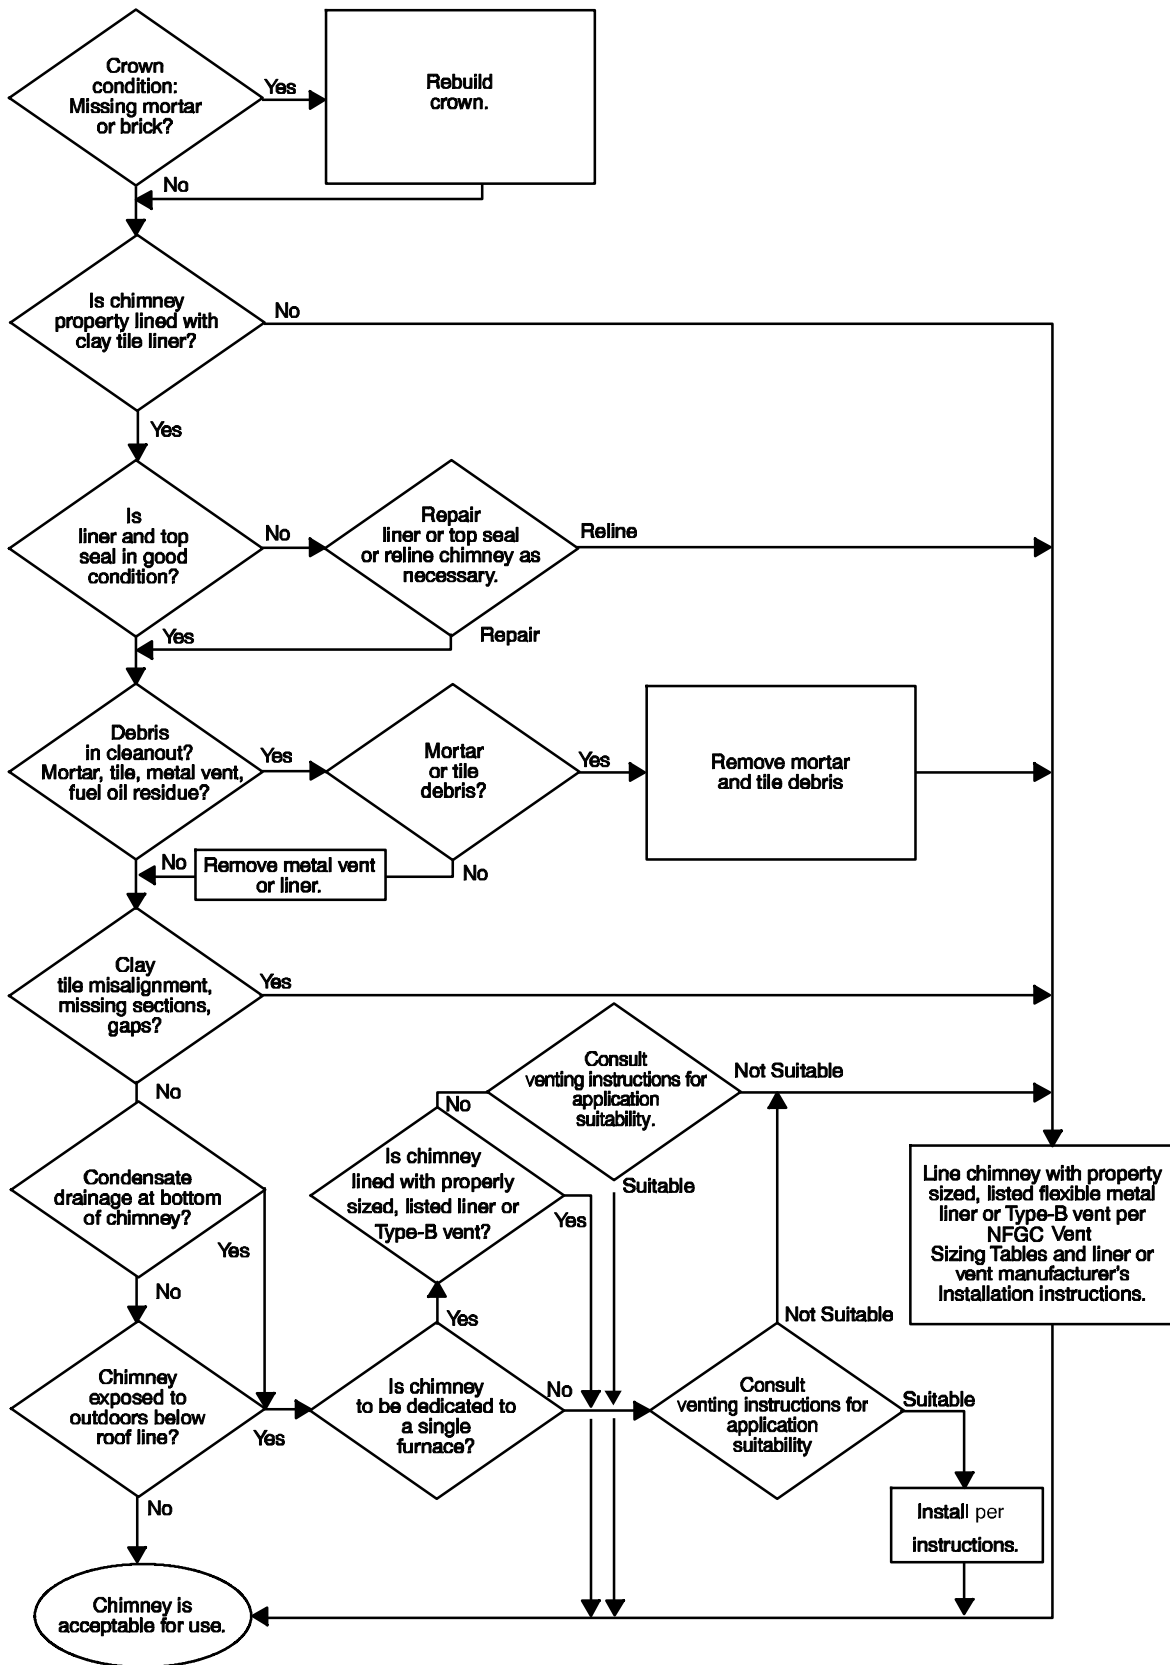

Fig. 25 - Chimney Inspection Chart
6. Do not vent this appliance into an unlined masonry chimney. Refer to Chimney Inspection Chart, Fig. 25.
Inspections before the sale and at the time of installation will determine the acceptability of the chimney or the need for repair and/or (re)lining. Refer to the Fig. 25 to perform a chimney inspection. If the inspection of a previously used tile-lined chimney: